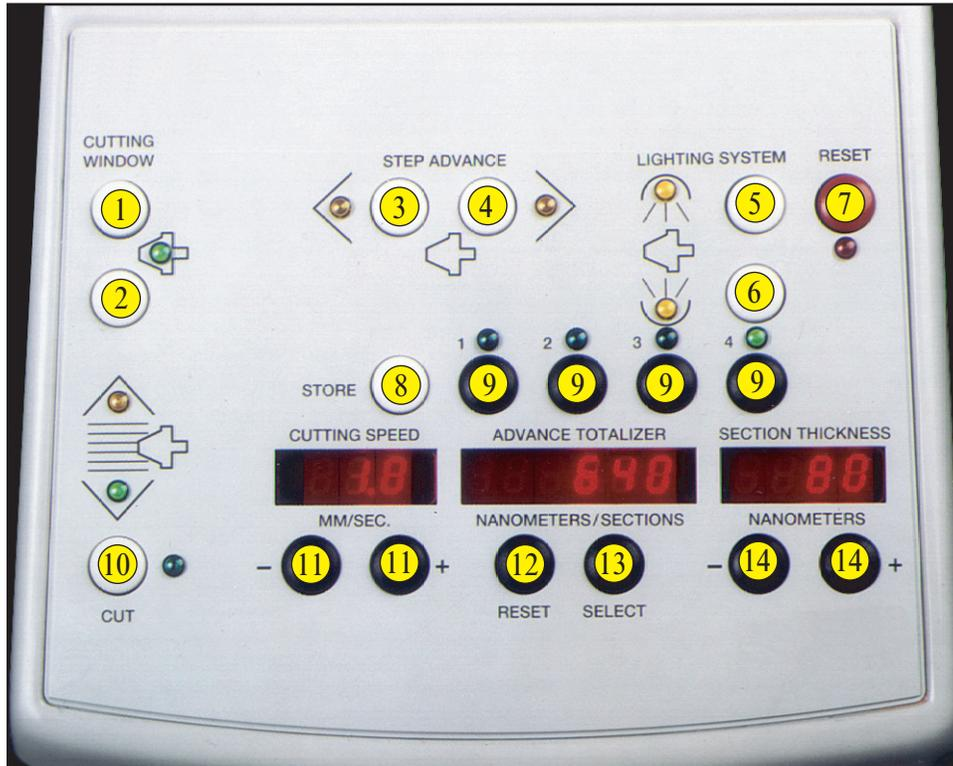

Figure 3: PowerTome XL Control Panel
- *“Figure 3: PowerTome XL Control Panel” on page 10*